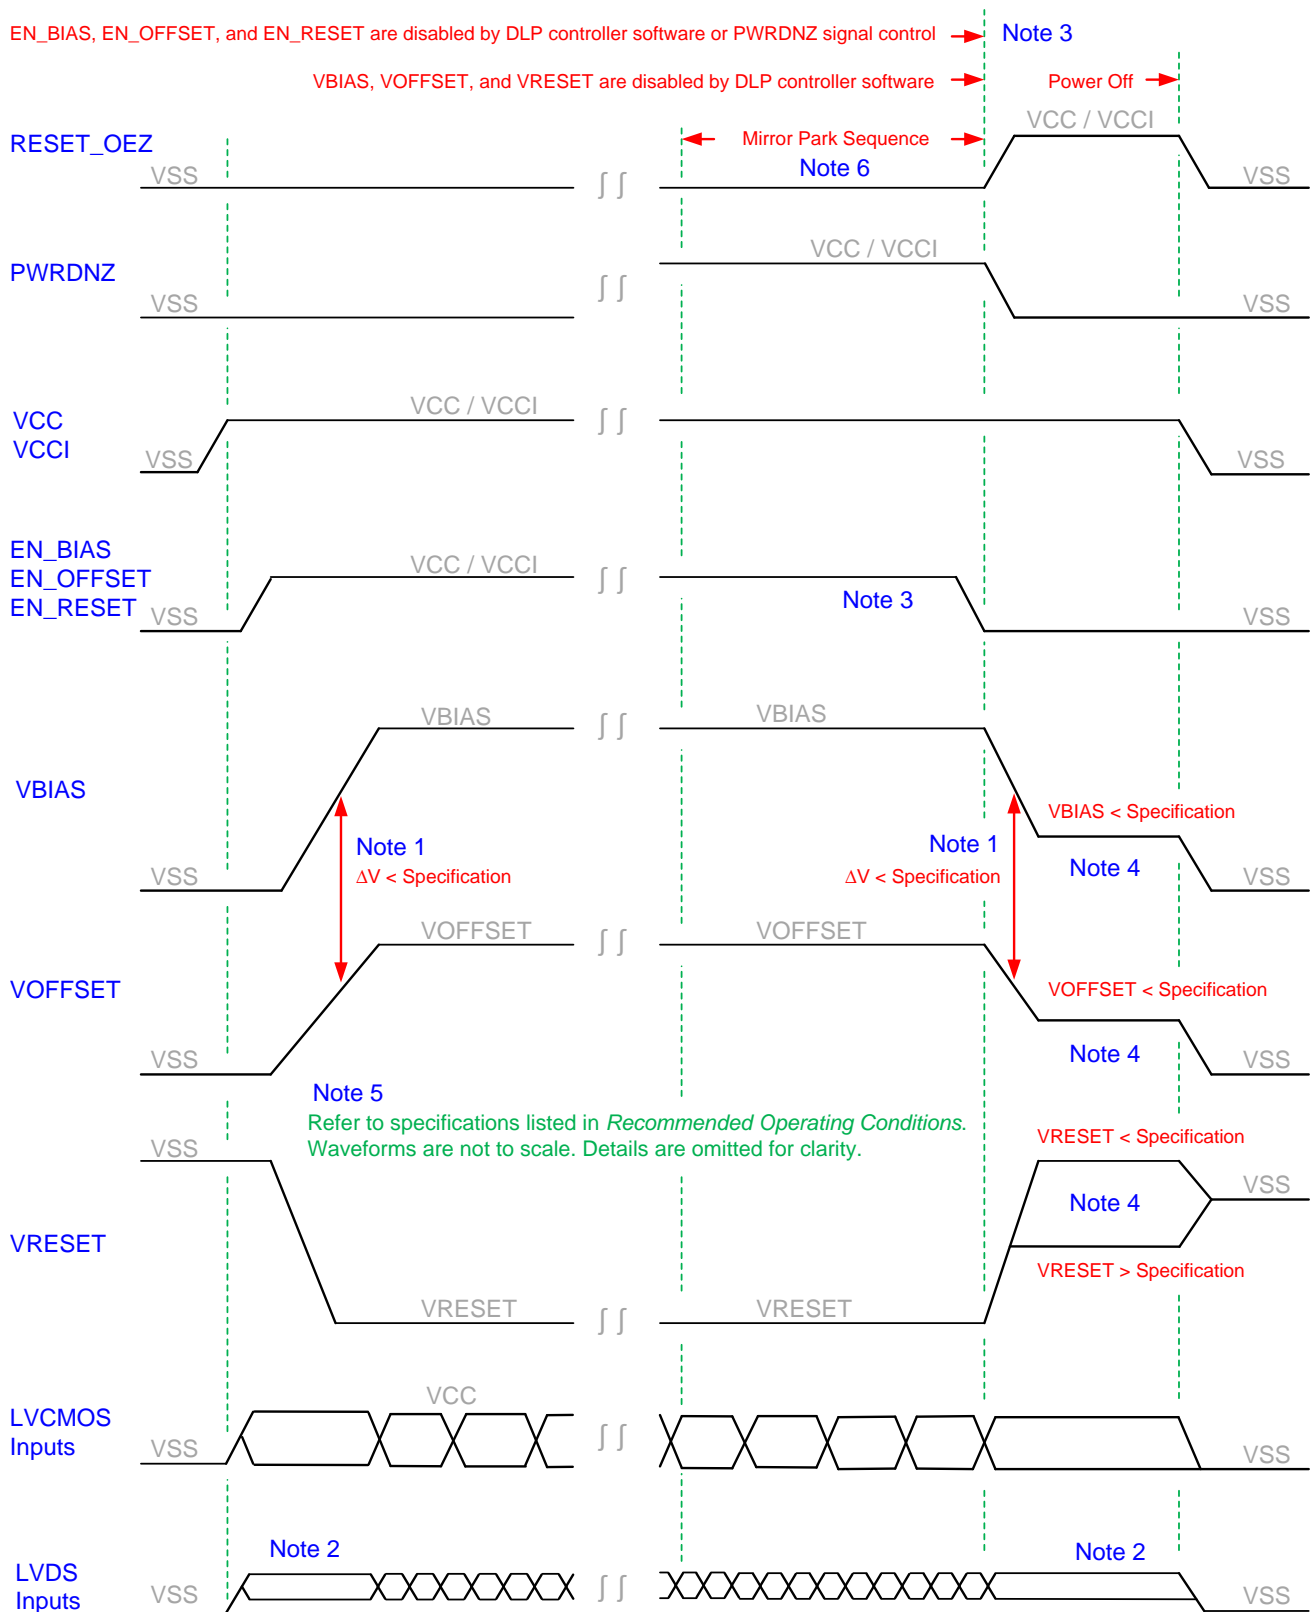

Figure 19. DMD Power Supply Sequencing Requirements
For reliable operation of the DMD, the following power supply sequencing requirements must be followed. Failure to adhere to the prescribed power-up and power-down procedures may affect device reliability. VCC, VCCI, VOFFSET, VBIAS, and VRESET power supplies have to be coordinated during power-up and power-down operations. VSS must also be connected. Failure to meet any of the below requirements will result in a significant reduction in the DMD's reliability and lifetime. Refer to Figure 19.
- Power supply slew rates requirements during power-up are flexible, provided that the transient voltage levels follow the requirements listed in Absolute Maximum Ratings, in Recommended Operating Conditions, and in Figure 19.
- Power supply slew rates during power-down are flexible, provided that the transient voltage levels follow the requirements listed in Absolute Maximum Ratings, in Recommended Operating Conditions, and in Figure 19.